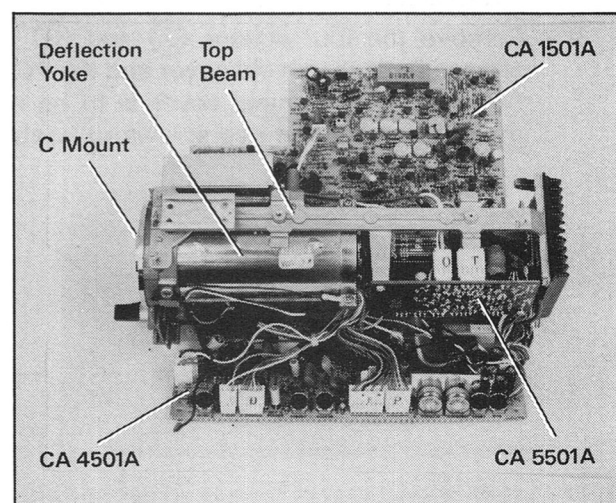
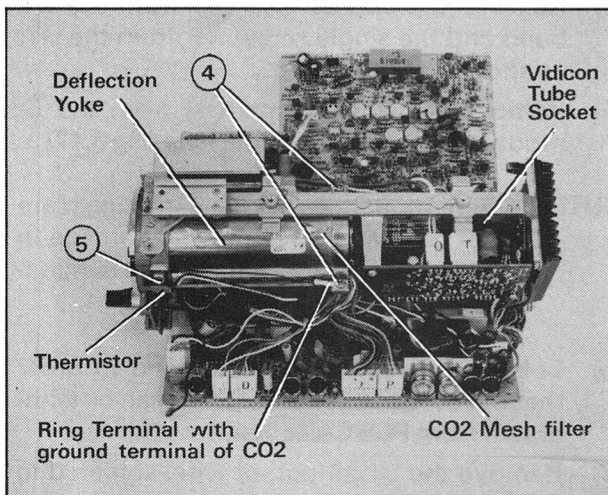

Fig 3.12 PCBs Hinged Down to Show Deflection Yoke
Fig 3.16
The vidicon is located within the deflection yoke (DY), illustrated in Figure 3.12.
- (1) Hinge clear PCBs CA 1501A and CA 4501A, and remove CA 5501A (Fig 3.12)
The deflection yoke is shown in Figure 3.12. To remove the DY
- (2) Remove the four screws ①, ② and ③, shown in Figure 3.12, in order to remove the top beam
- (3) Remove the vidicon tube socket as described in Section 3.1.1.3
- (4) Remove the two screws ④ from the DY band and the single screw ⑤ from the DY, as shown in Figure 3.16
- (1) Prior to assembling the DY or vidicon, ensure that the mesh-filter capacitor shown in Figure 3.16 is securely bonded to the body. Inadequate bonding may produce noise due to mechanical vibration.
- (2) The earthing wire (ring terminal wire) for the mesh-filter capacitor is secured by either of the two screws (4) shown in Figure 3.16. Failure to adequately secure the earthing wire may cause oscillation, resulting in unclear pictures.